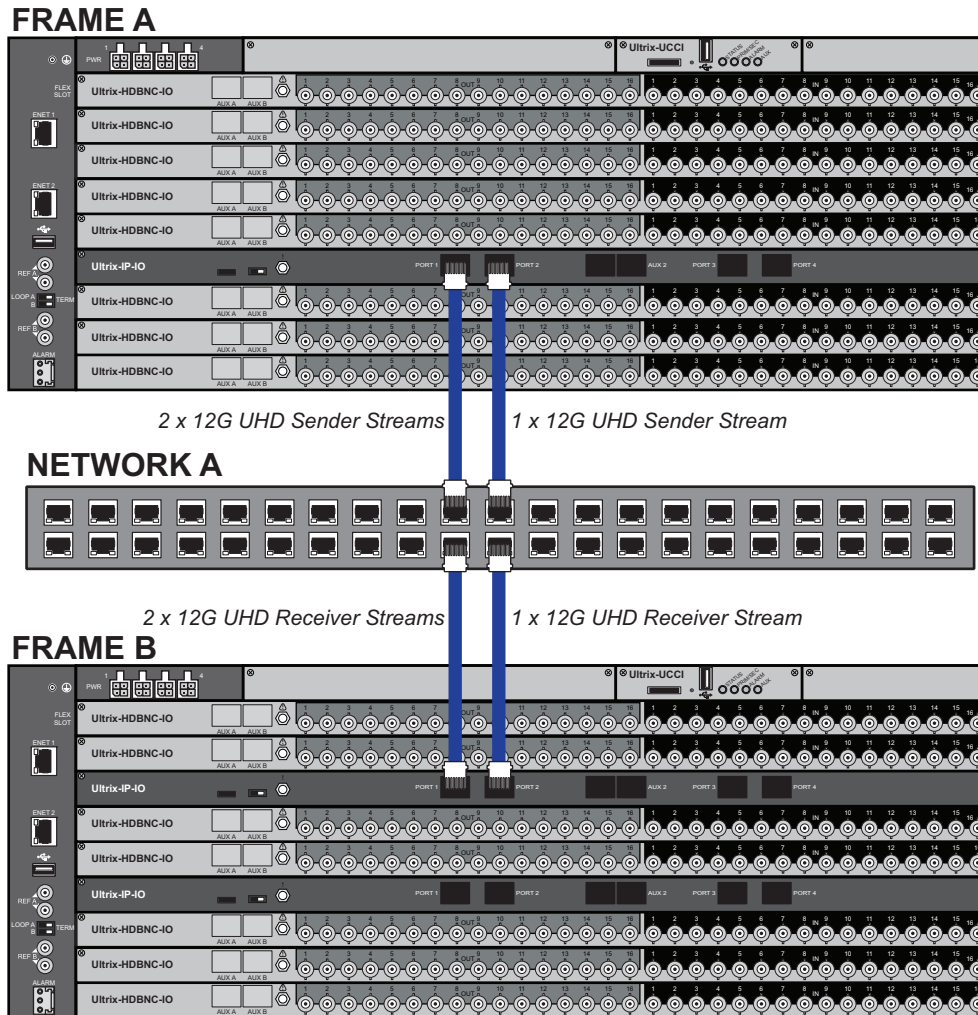

Figure 34 Example of ULTRIX-IP-IO with 12G UHD Video Streams
**Figure 34** shows two ULTRIX-FR5 routers with one (Frame A) transmitting three 12G UHD video streams and the second router (Frame B) receiving three 12G UHD streams.